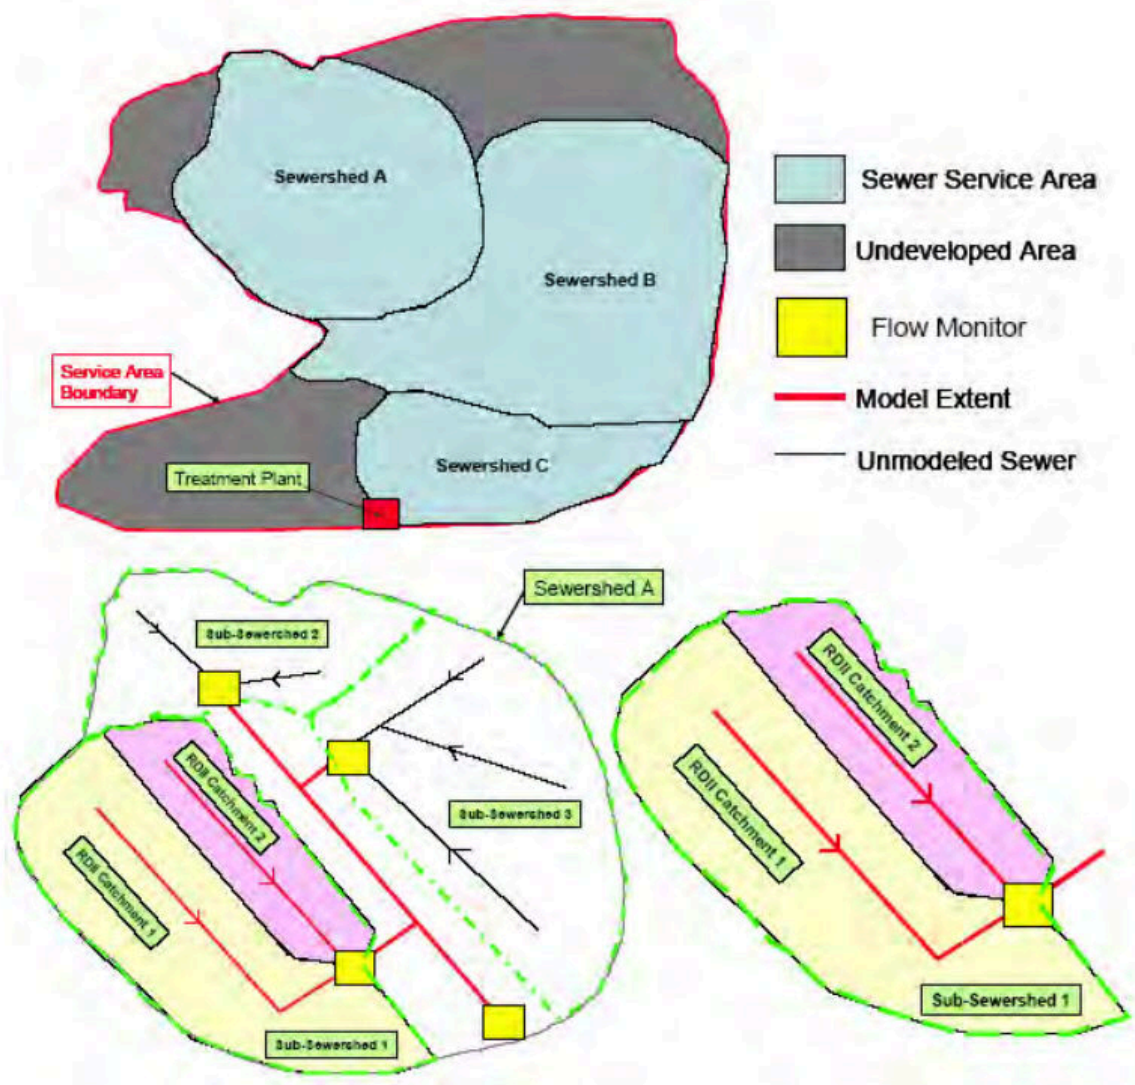

Figure 7-5 Sewershed delineation (Vallabhaneni et al., 2007).
1. Identify the sewershed areas that are tributary to the flow monitor (see Figure 7-5).